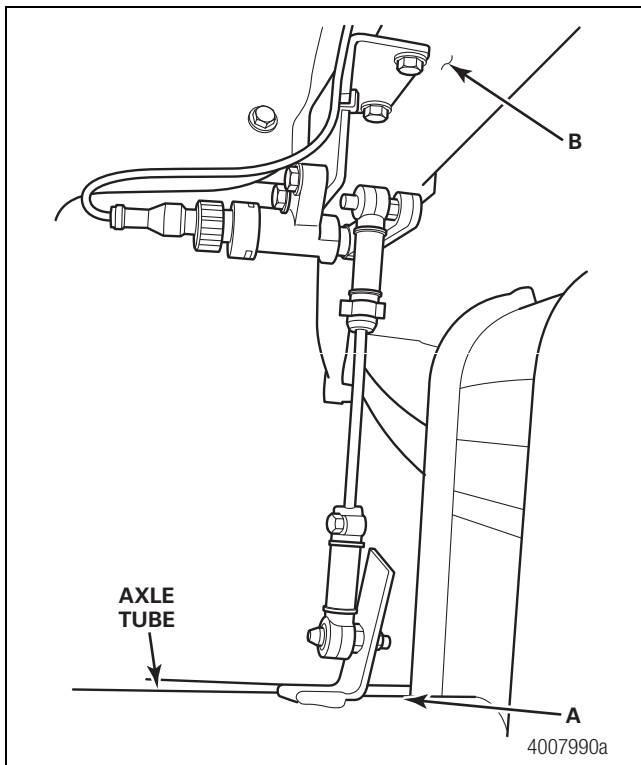

Figure 51
- With the trailer **unloaded**, measure from the top of the axle tube (A) to a fixed point (B) on the underside of the trailer. Note the distance. Figure 51.
- With the trailer **loaded** (maximum load), measure from the same points (A and B) that were used for the trailer unloaded measurement. Note the distance. Figure 51.